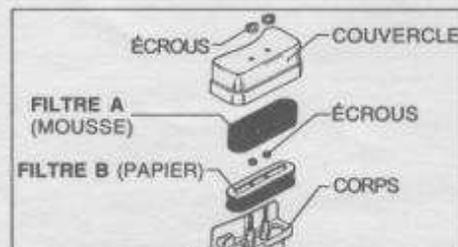

FIGURE 4
B. ENTRETIEN DU FILTRE (Figure 4):